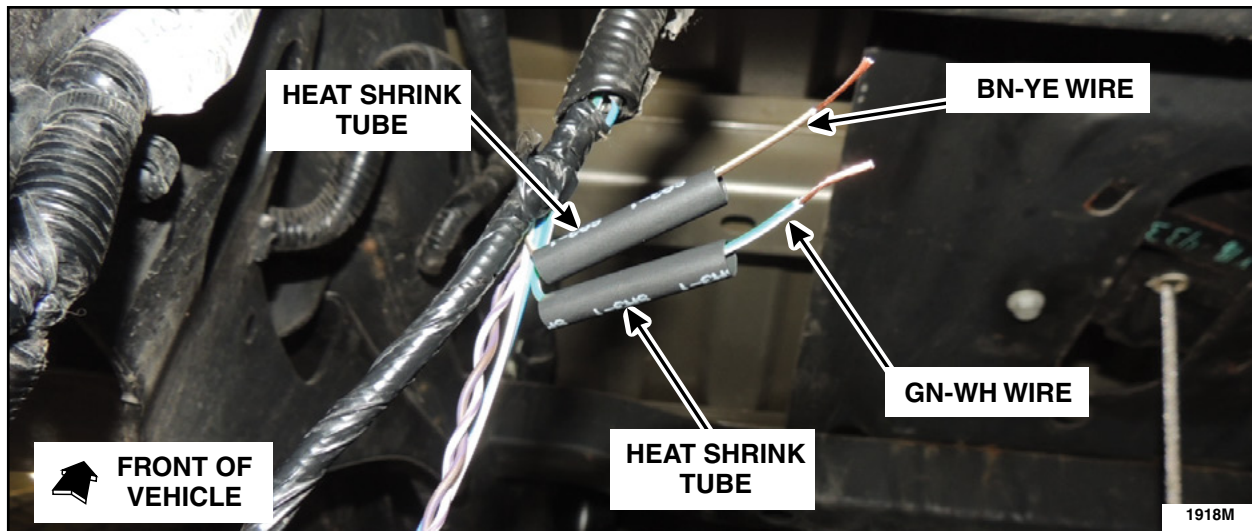

FIGURE 10
13. Place a piece of dual wall heat shrink tube onto each GN-WH and BN-YE wires. Making a bend in the wires will prevent the heat shrink tubes from falling off. See Figure 10.